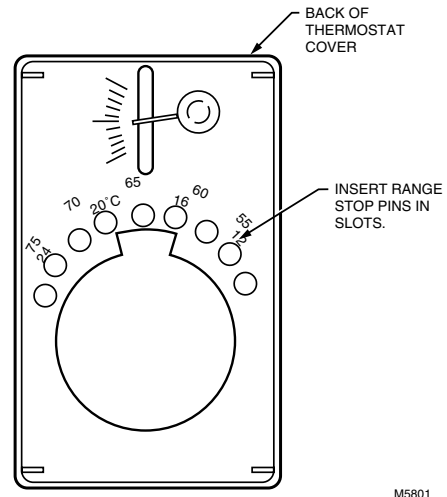

Fig. 6. Setting range stops.
- 3 Insert the range stop pins in the desired minimum and maximum temperature setting positions on the back of the thermostat cover. See Fig. 6.